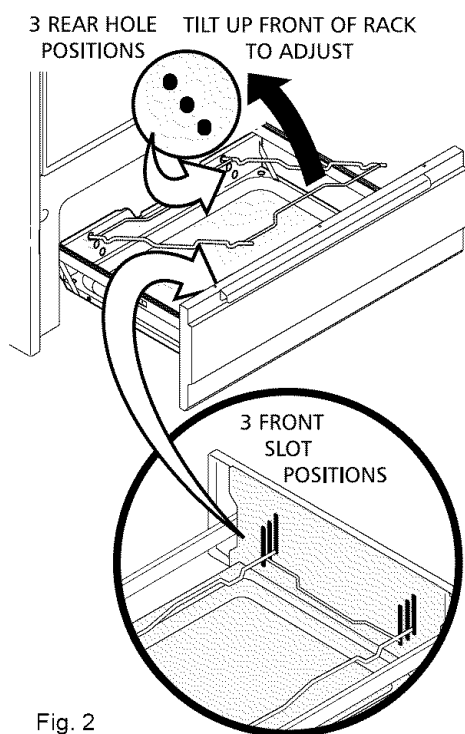

Fig. 2
4. Position rack by tilting front of rack up and pulling rack out from locating holes in rear of broiler drawer. Reposition back of rack in the desired locating holes and allow front of rack to slide down into the corresponding slots in front of broiler drawer (See Fig. 2).
2. Remove 2 screws located on the inside of the oven door liner (See **A** Fig. 2)
3. Insert the 2 screws into the door hinge holes located on the side of the hinge arm, one into each hinge (See **B** Fig. 2).
5. Reinstall the 2 screws into the door liner (See **C** Fig. 2).